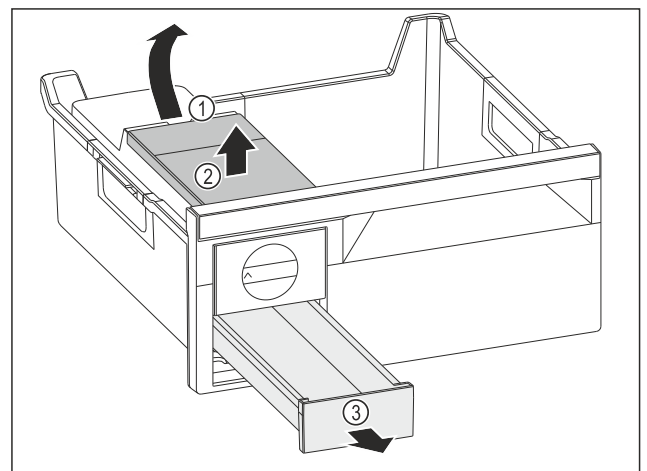

Fig. 153
- Removing the water tank: Lift the water tank by the recess Fig. 153 (1).
- Remove the water tank Fig. 153 (2) upwards.
- Remove the ice cube drawer Fig. 153 (3) to the front.